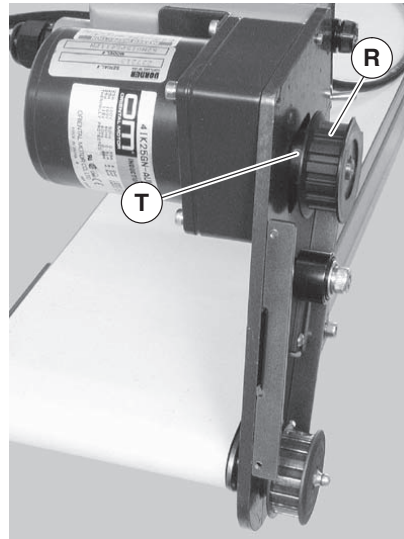

Figure 21
6. Loosen two (2) set screws (Figure 21, item T). Remove drive pulley (R).
8. Mount new gearmotor with four (4) screws (X). Tighten to 45 in-lb (5 Nm).
9. Replace drive pulley (Figure 21, item R) and tighten set screws (T).